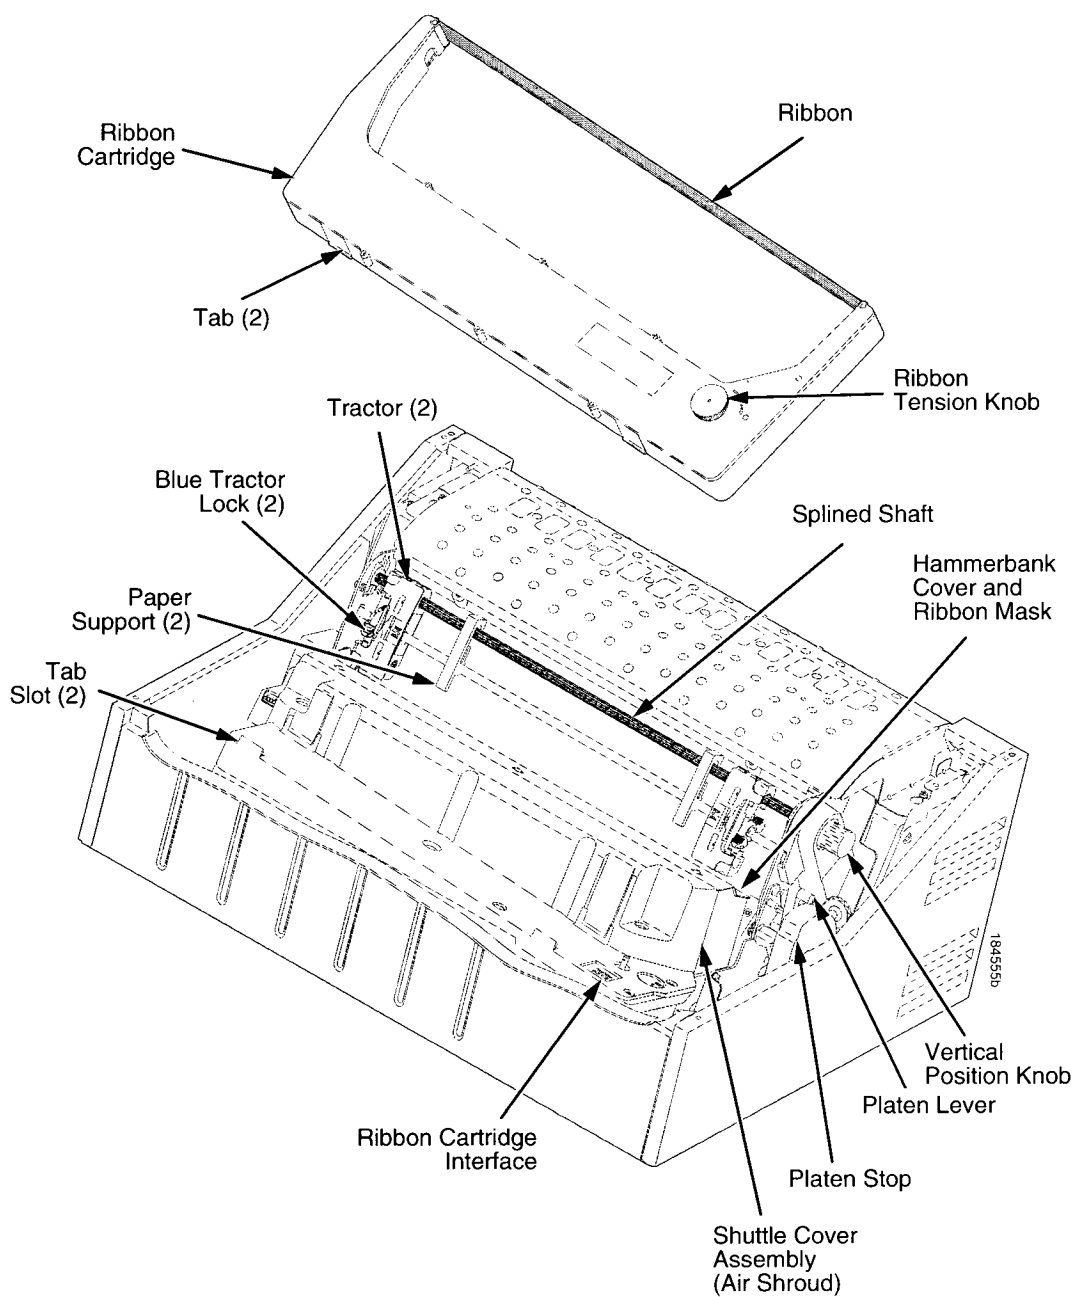

Figure 7. Printer Interior Components
7. Brush the paper dust and ribbon lint off the tractors, shuttle cover assembly, and base casting with a soft-bristled, non-metallic brush (such as a toothbrush). Vacuum up the residue. (See Figure 7.)